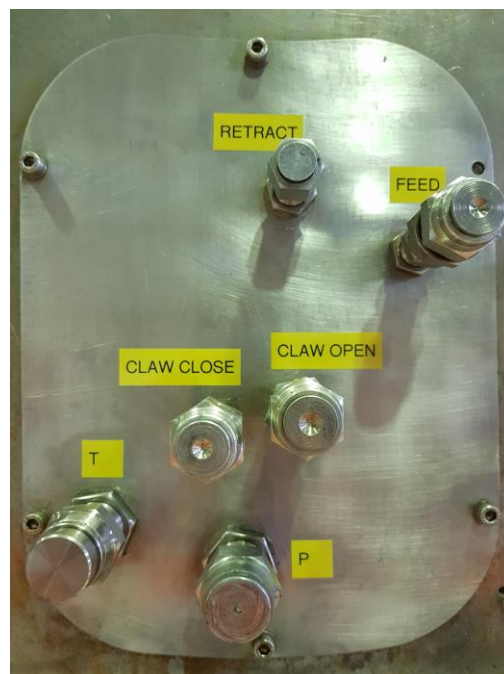

Fig. 4 : Hydraulic hose connection panel
- Connect all DWS hydraulic hoses as appropriate. All connections is marked, and can be seen in Fig. 4 : Hydraulic hose connection panel.